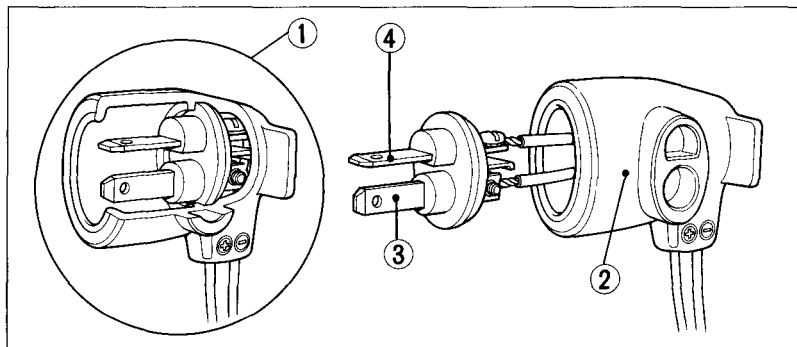

Fig. 2-25
Electrical accessories may be connected to the receptacle by using the special DC plug (Fig. 2-25) that comes attached to the receptacle. Be sure to use only accessories that are designed for 12 V DC power.
1. Remove the cover (2) from the plug.
2. Thread the positive and negative accessory leads through the plug cover as indicated in Fig. 2-25.
3. Attach the leads to the plug (1). Make sure to connect the positive lead (3) and the negative lead (4) to the proper terminals.